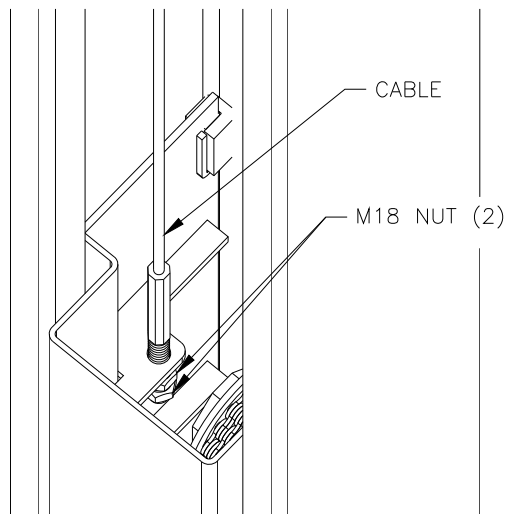

Fig 8-Cable Attachment
- 19) Raise the carriages so the hydraulic cylinder is out of the way, and sent into the locks. Using a wrench, tighten the nut on the cable, **Fig 8** and then use the second nut as a jam nut once cables are adjusted properly.